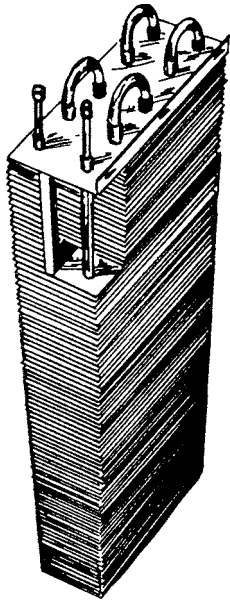

Fig. 10-4 Finned-coil evaporator. (Johnson Controls)
- *Finned-tube coil.* The finned-tube coil is placed in the air stream of the unit. Refrigerant vaporizes in it. The refrigerant in the tubes and the air flowing around the fins attached to the tubes draw heat from the air. This is commonly referred to as a direct expansion cooling system. See Fig. 10-4.